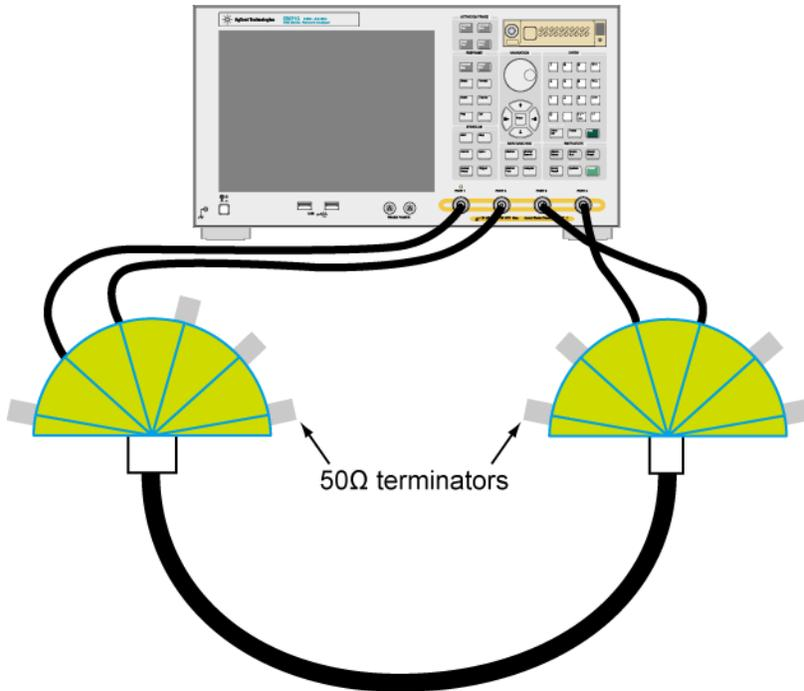

Figure 5-9 Connection Example for Intra-Pair Skew measurement
28. Connect the test fixture to the test port cables according to the Figure 5-9 Connection Example for Intra-Pair Skew measurement. Unused terminals should be terminated.